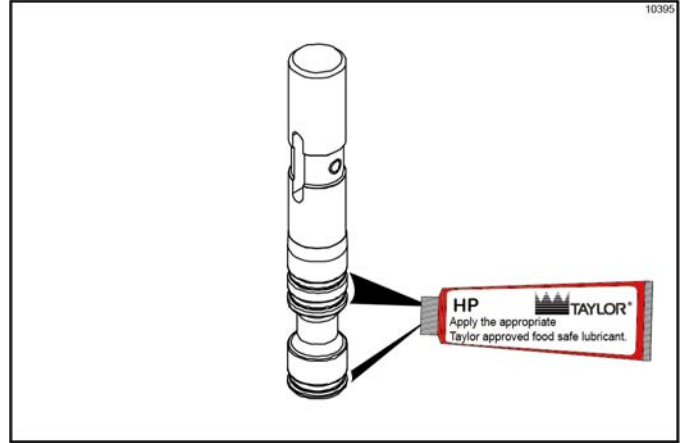

Figure 6-26
10. If the parts are in good condition, slide the three O-rings into the grooves on the draw valve and lubricate them. (See Figure 6-26.)